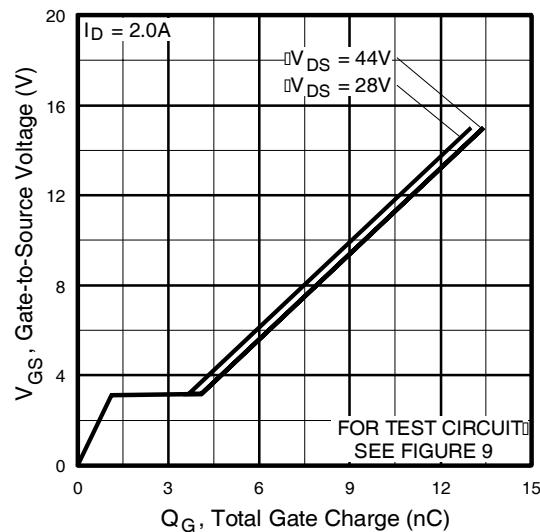

Fig 6. Typical Gate Charge Vs.
| Q_{gd} | Gate-to-Drain ("Miller") Charge | | 3.0 | 4.4 | | $V_{\text{GS}} = 10\text{V}, \text{See Fig. 6 and 9}$ ④ |